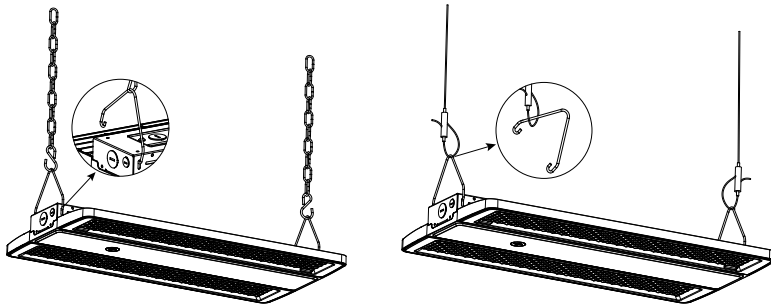

Figure 2
Step1.Hook up the chain; (Figure 2)
Step2.Connect the chain with fixture; (Figure 2)
Step3. Fix the chain on the rail, adjust the chain length as per need; (Figure 2)